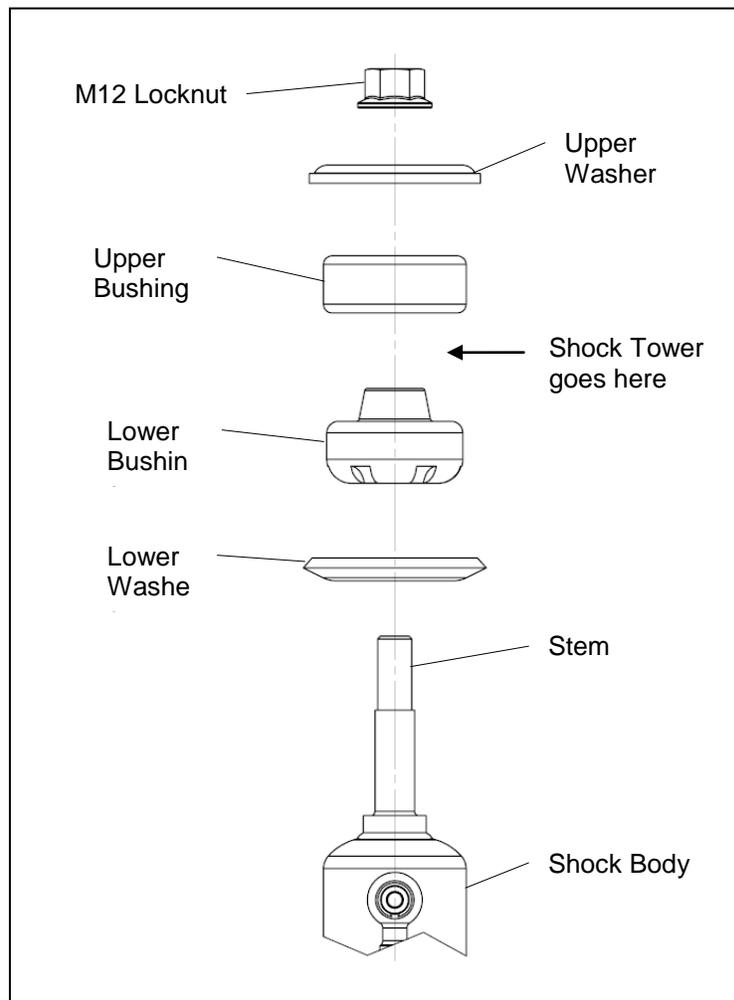

Figure 1. Driver Side
- C. Position each reservoir as depicted in Figure 1 (Note: Figure 1 shows the driver side, the passenger side is a mirror image).